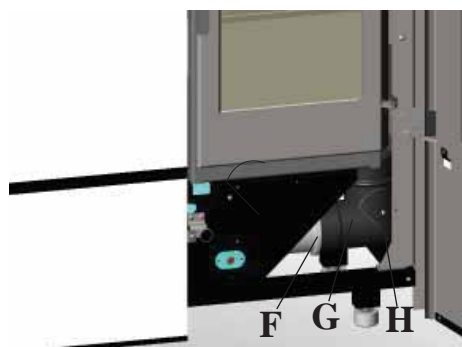

fig. 5
To complete connection simply fit a stainless steel chimney flue with an 8 cm diameter (not supplied) on the elbow joint (G fig.5) which is already mounted on the stove and accessible by opening the right glass door (fig. 5).
- Loosen the locking clamp (F-fig. 5) of the elbow joint and rotate it by 90 degrees.